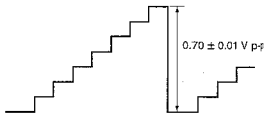

Fig. 3-2
3. Observe the TP306 (G OUT) with an oscilloscope, and adjust the COMPONENT Y level so that the signal level will be $0.70\text{ V} \pm 0.01\text{ V p-p}$. (Fig. 3-2)